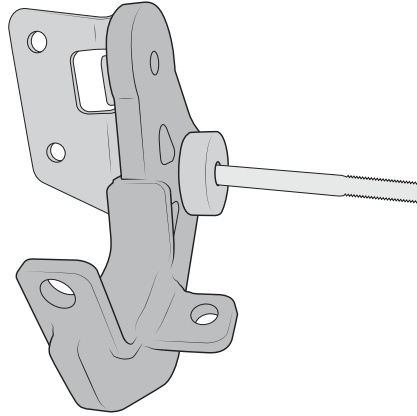

Figure 6: Front Right Side Shown
4. Prepare AEV tow loops by inserting a black M12x150mm bolt with washer through the bottom rear hole of the tow loop with a provided 15mm (0.59") thick spacer (the thinner spacers will be used in another location). If installing EX full width corners, the corner reinforcement bracket (found within corner kit) needs to be installed between the bolt head/washer and the tow loop as shown (fig 6).